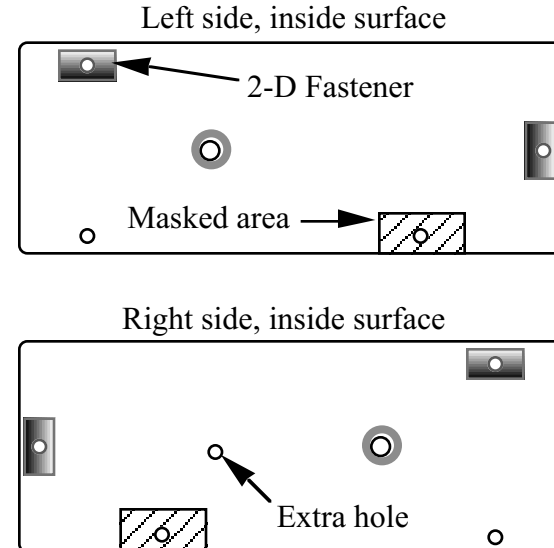
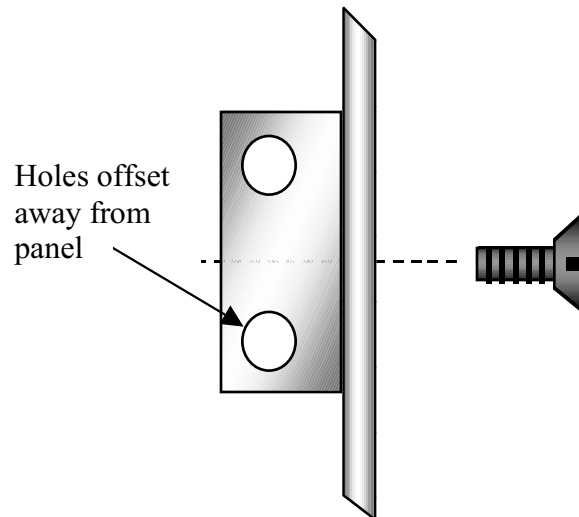

Figure 6-10
Figure 6-11
- Locate the two side panels and arrange them as shown in Figure 6-10, with the inside surfaces facing up. The right side can be identified by the presence of an extra hole as shown. The illustration also shows where 2-D fasteners will be installed, as well as the areas which were masked during painting.
Attach two 2-D fasteners to each side panel at the locations indicated in Figure 6-10. (Make sure that the holes are countersunk; if not, you may be working with the wrong side of the panel.) Use one 3/16" (4.8 mm) flat-head screw to hold each 2-D fastener to the side panel (Figure 6-11). The two unused holes on each fastener must be offset *away* from the side panel as shown.